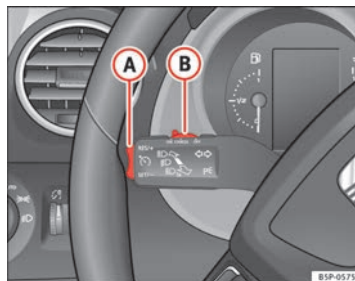

Fig. 150 Turn signal and main beam headlight lever: switch and rocker switch for the cruise control
- Push the switch ⇒ fig. 150 **(A)** to the left to **ON**.